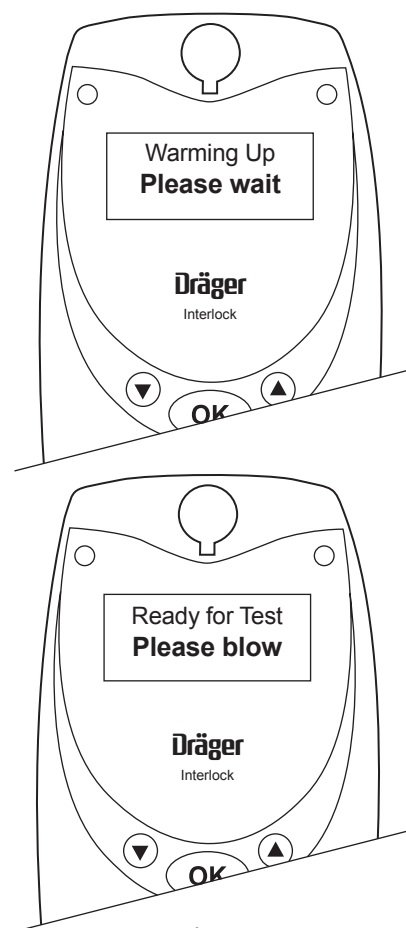

Figure 2
The Interlock will display "**Warming Up - PLEASE WAIT**" on the screen as shown in Figure 2.
- When the Interlock is ready for the BAC test, it will display "**Ready for Test - PLEASE BLOW**" on the screen as also shown in Figure 2 and the yellow light will flash.